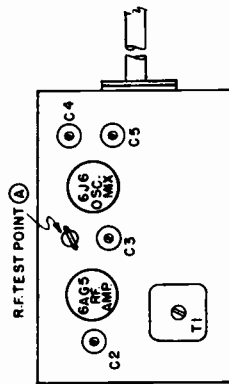

FIG. 3 - TOP VIEW
3. Connect TV I-F Signal Generator through a 1500 MMF condenser to Test Point (A) of tuner unit; (See Fig. 3) low side to ground.
4. Connect negative lead of V.T.V.M. (or meter of 20,000 ohms-per-volt, or better) to 8.2K diode load resistor TEST POINT (B); positive lead to ground. See schematic diagram.
3. Connect vertical amplifier of Oscilloscope through a 10,000 ohm ½ w. resistor to Test Point (A) fig. 3.
7. Observe response curve on Scope. If necessary adjust C2, C3, or C4 (See fig. 3) so that response curve corresponds approximately to that shown in fig. 6 and has maximum gain.
8. Observe response curve and adjust C5, (figs. 3 & 4) for Zero-beat with 24.75 mc marker.